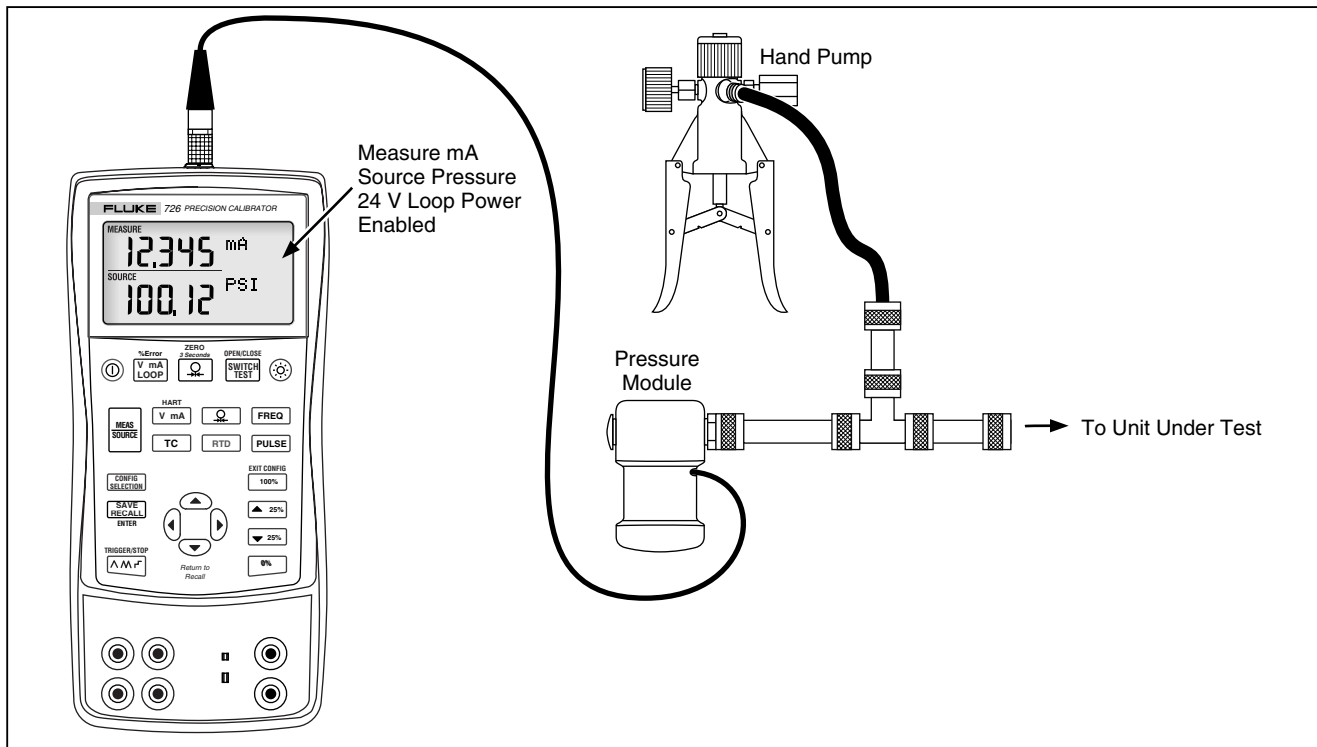

Figure 18. Connections for Sourcing Pressure
The Calibrator sources pressure by measuring pressure supplied by a pump or other sources, and displaying the pressure in the SOURCE field. Figure 18 shows how to connect a pump to a Fluke pressure module which makes it a calibrated source.
1. Connect a pressure module to the Calibrator as shown in Figure 18. The threads on the pressure modules accept standard $\frac{1}{4}$ NPT pipe fittings. Use the supplied $\frac{1}{4}$ NPT to $\frac{1}{4}$ ISO adapter if necessary.